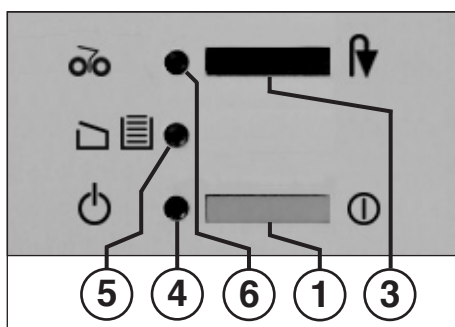

fig. 1
1 = Pushbutton switch (fig. 1)
3 = Pushbutton switch „reverse“ (fig. 1)
4 = Pilot lamp „ready“ (fig. 1)
„receptacle full“ / „door open“ (fig. 1)
6 = Pilot lamp „paper jam“ (fig. 1)
- Turn machine on with pushbutton switch (1) (fig. 1). Pilot lamp lights up (4) (fig. 1).
When the collecting bag is full, the machine turns off automatically. The pilot lamp (5) (fig. 1) lights up. Empty the collecting bag as follows:
- Move back the sliding frame with the collecting bag and close door. The pilot lamp (5) (fig. 1) goes off.